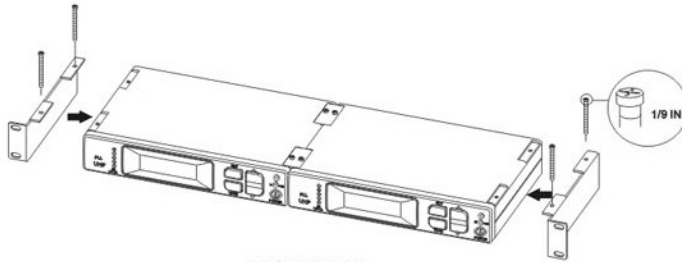

FIGURE 32
4. Position the rack-mount brackets over the holes in the sides of each receiver, as shown in Figure 32.